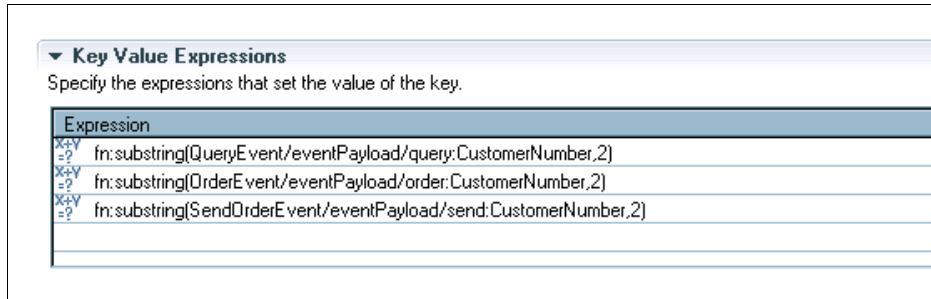

Figure 8-52 Key value expression
16. Using the Content Assist, add an expression for the CustomerNumber in each of the inbound events (as we mentioned, it may be any one of these events that sets the key). See Figure 8-52.